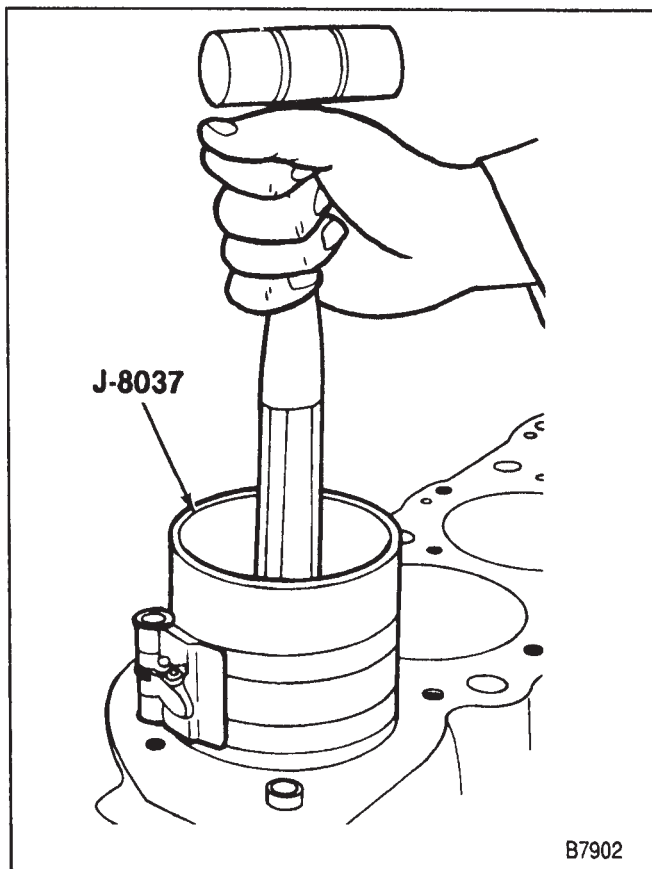

Figure 25—Installing the Piston
- C. Without disturbing the ring end gap location, install J 8037 over the piston (figure 25).
- E. Place the piston in its matching bore. Using light blows with a hammer handle, tap the piston down into its bore (figure 25). At the same time (from beneath the vehicle) guide the connecting rod to the crankpin with the hose pieces. Hold the ring compressor against the block until all rings have entered the cylinder bore.